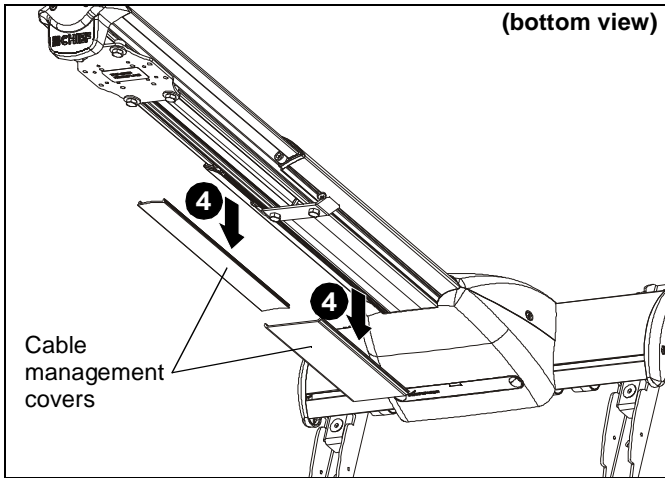

Figure 55
- Remove cable management covers (if necessary) from short throw projector arm. (See Figure 55)